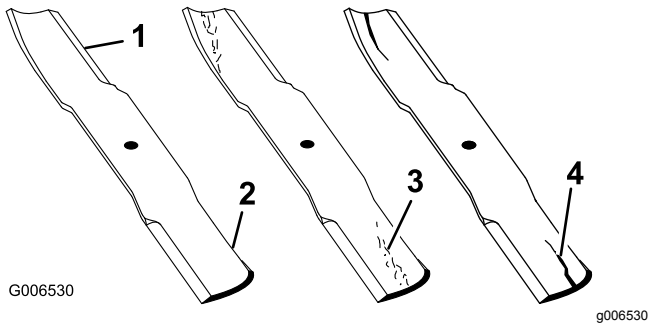

Figure 78
- Inspect the cutting edges (Figure 78).
- Inspect the blades, especially the curved area (Figure 78).
If you notice any damage, wear, or a slot forming in this area (Figure 78), immediately install a new blade.